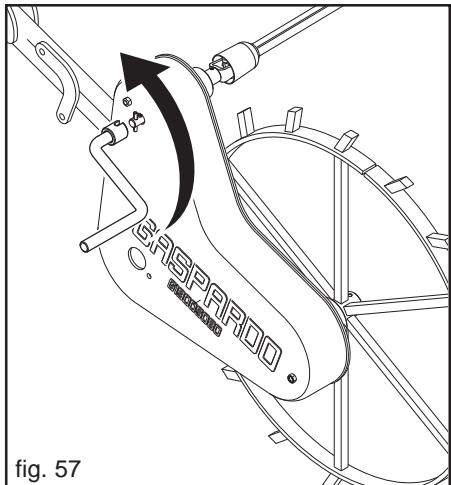

fig. 57
- 5) In order to perform the actual distributor test itself, insert the sowing test handle in the gearbox and rotate it in a counterclockwise (Fig. 57), as shown on the sticker: 22 revolutions of the handle correspond to a 1/10 of a hectare.